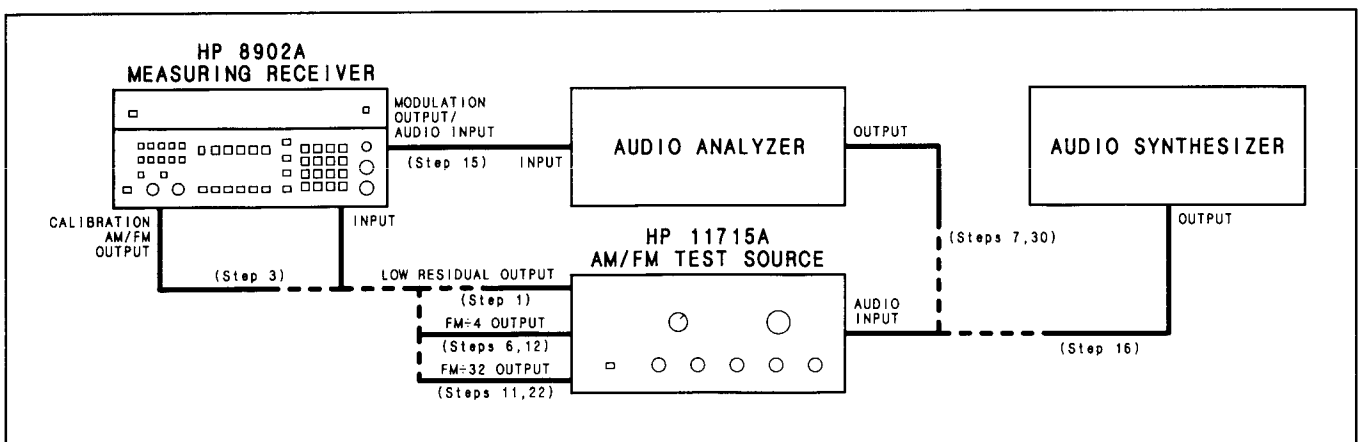

Figure 4-2. FM Performance Test Setup
1. On the AM/FM test source; set the test mode to residual FM. Connect its low-residual (560 MHz) output to the Measuring Receiver's INPUT. (See Figure 4-2.)
3. Connect the Measuring Receiver's CALIBRATE AM/FM OUTPUT to the INPUT. (See Figure 4-2.)
- On the AM/FM test source, set the test mode to FM. Connect its FM÷4 output to the Measuring Receiver's INPUT. (See Figure 4-2.)
- Set the audio analyzer's oscillator to 10 kHz at 1V. Connect its output to the audio input of the AM/FM test source. (See Figure 4-2.)
- Connect the FM÷32 output of the AM/FM test source to the Measuring Receiver's INPUT without disturbing the AM/FM test source's controls. (See Figure 4-2.) Multiply the displayed ratio on the Measuring Receiver by the calibration factor of step 4. (For example, if the display reads 12.52% REL and the calibration factor of step 4 is 100.4%, the result is $12.52 \times 100.4 = 12.57\%$ REL.) The result should be between 12.35 and 12.65% REL.
- Connect the FM÷4 output of the AM/FM test source to the Measuring Receiver's INPUT. (See Figure 4-2.)
- Connect the audio analyzer's input to the Measuring Receiver's **MODULATION OUTPUT/AUDIO INPUT**. (See Figure 4-2.) Set the audio analyzer to measure the distortion on the 100 kHz signal at the **MODULATION OUTPUT/AUDIO INPUT** (all audio analyzer filters should be off). The distortion should be 0.1% or less (−60 dB or less).
30. Set the audio analyzer's oscillator to 10 kHz at 4V. Connect its output to the audio input of the AM/FM test source. (See Figure 4-2.) Fine adjust the oscillator level for a Measuring Receiver display of 10 kHz peak deviation.